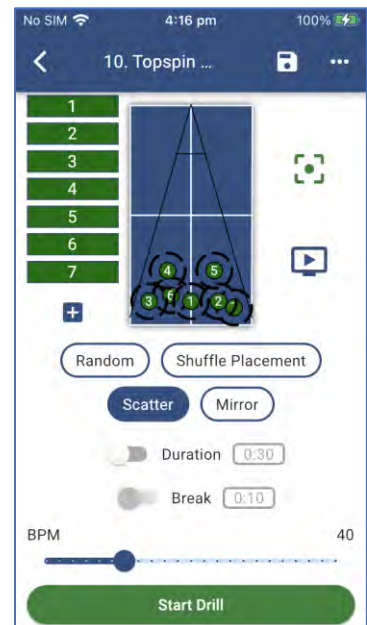

Figure 3-53
- Scatter** - Adds more variability to the trajectory and placement. This mode is similar to the less precise shots that a human might deliver. The ball will be delivered within a 20cm diameter around the placement chosen on the screen – which is displayed on screen. (Figure 3-53)